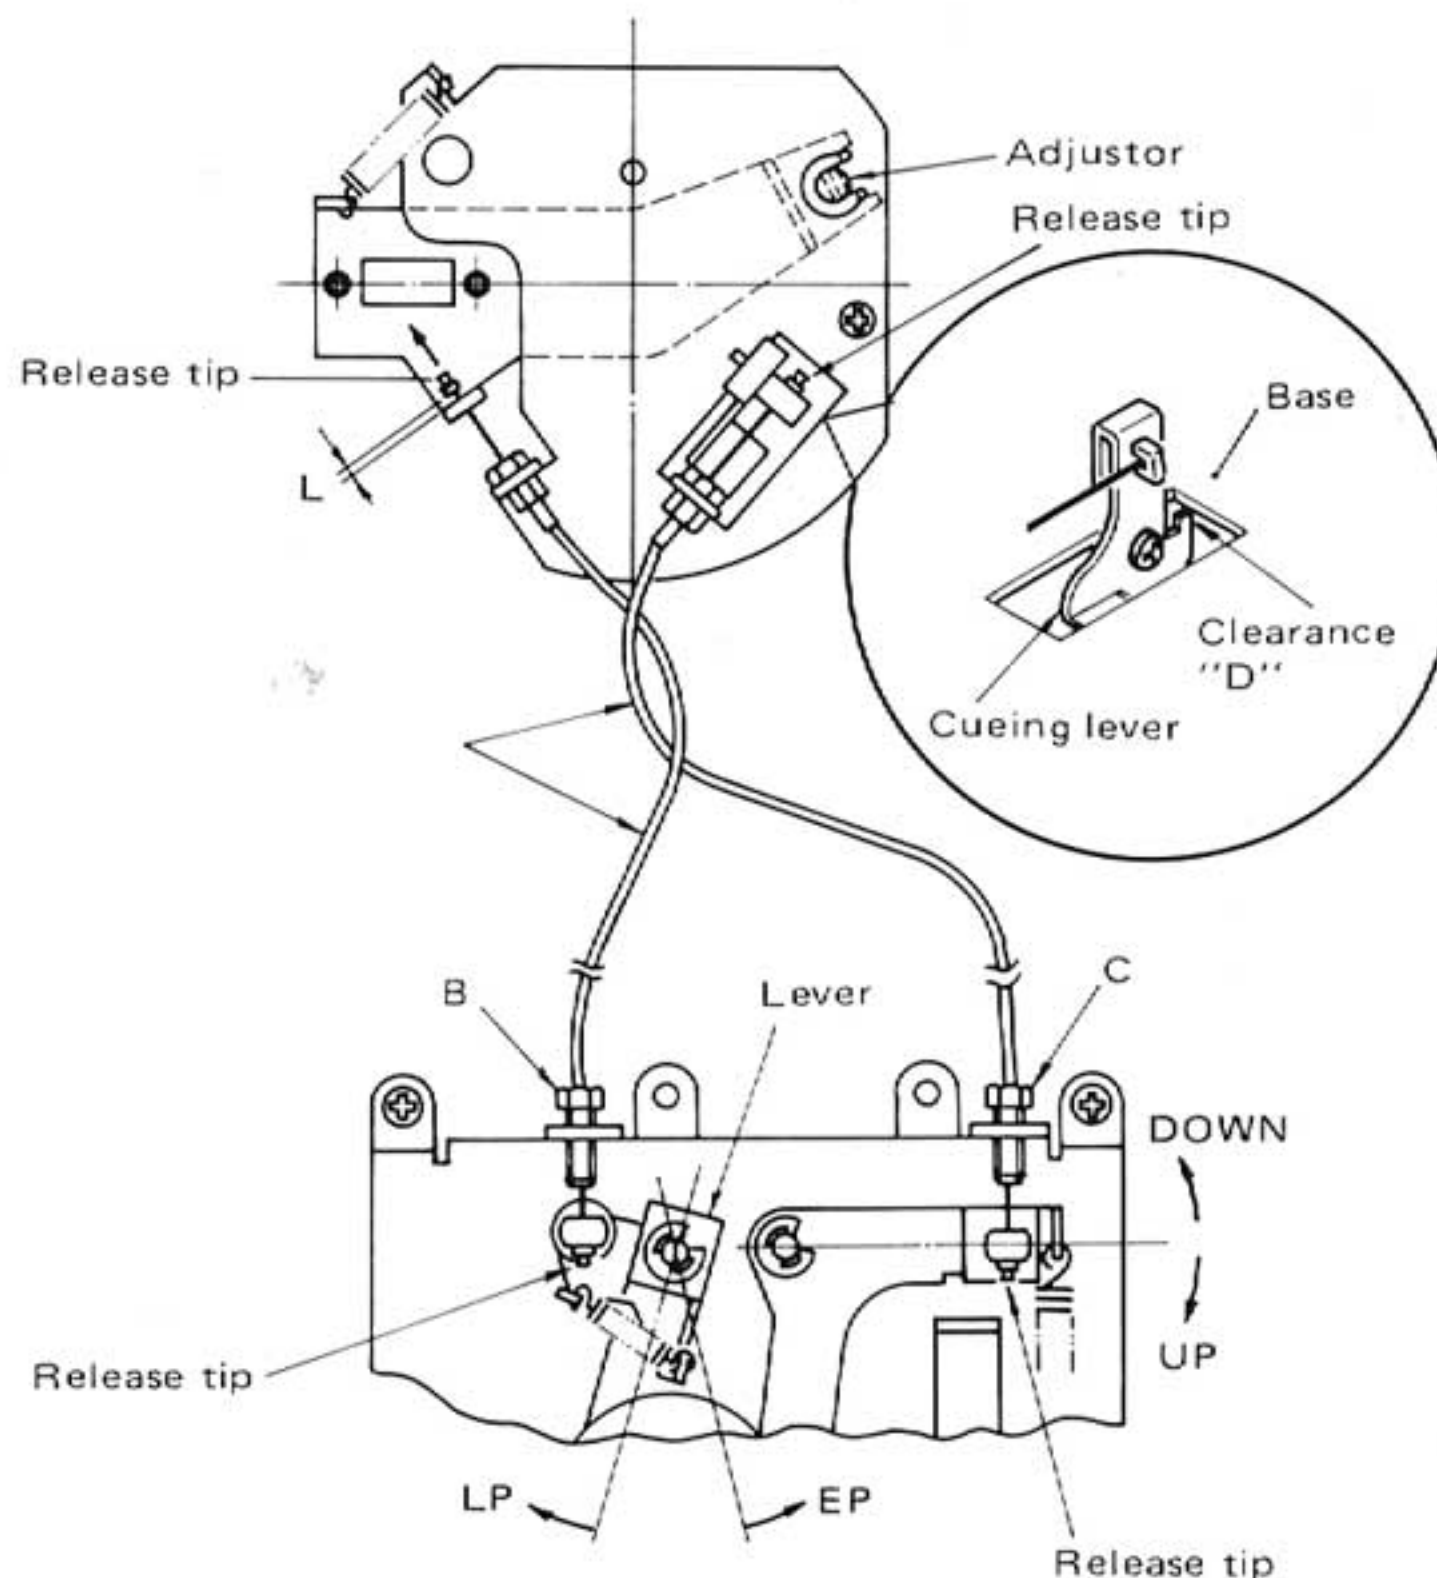

Fig. 28
- Turn the screw C until the clearance "D" between the cueing lever and its base becomes 0. (See Fig. 28.)